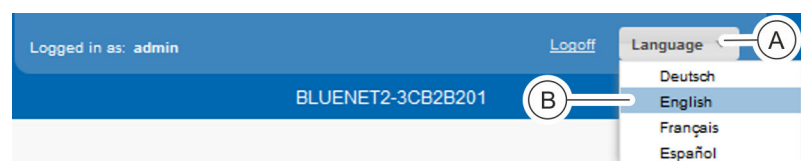

Fig. 88: Changing the language
1. Click the “Language” button (Fig. 88/A) in the title line.
2. Select the desired language (e.g. Fig. 88/B).